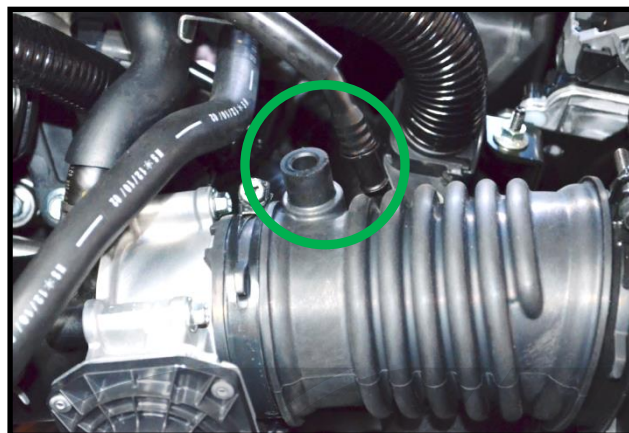

Figure 3c
- c) **Remove valve cover hose** from intake elbow. It should pull out with a little effort (shown removed in Figure 3c).